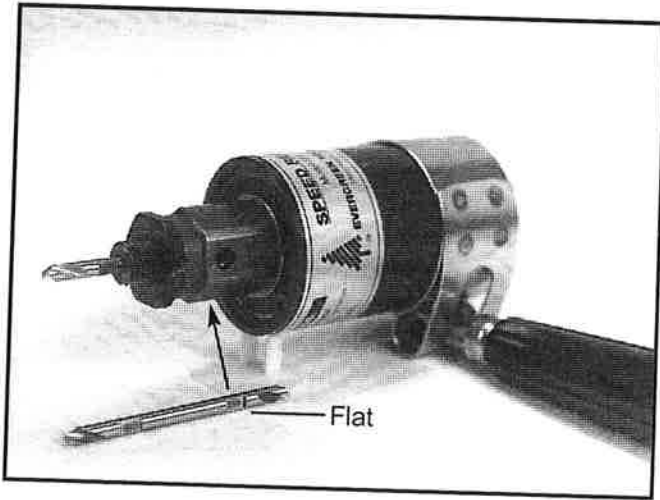

Fig. 9
4. Install pilot drill into hole until the leading edge of the 2nd flat is flush with the nose and the flat is perpendicular to the set screw (**FIG. 9**).